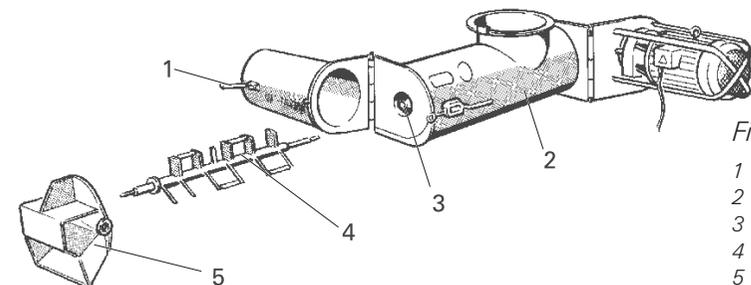

Fig. 14: Cleaning
- Release the eccentric lock (fig. 14, 1) and remove the bearing cover (fig. 14, 5)
- Pull out the mixer shaft (fig. 14, 4) and open the mixing pipe
**Always keep the adapter between the mixing shaft and the portioning shaft (fig. 14, 3) clean, dry and free of grease. Always ensure that no water can enter the portioning pipe (14, 2)**